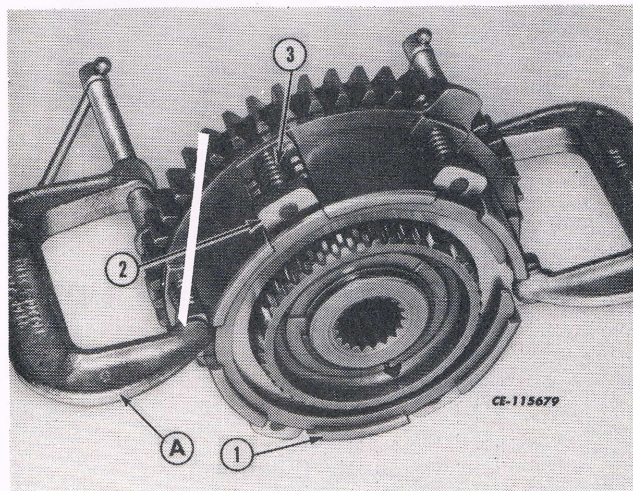

Fig. 4
1. Using a pair of "C" clamps (A), compress the six piston return springs (3) and remove the retainer ring (1). See Fig. 4.